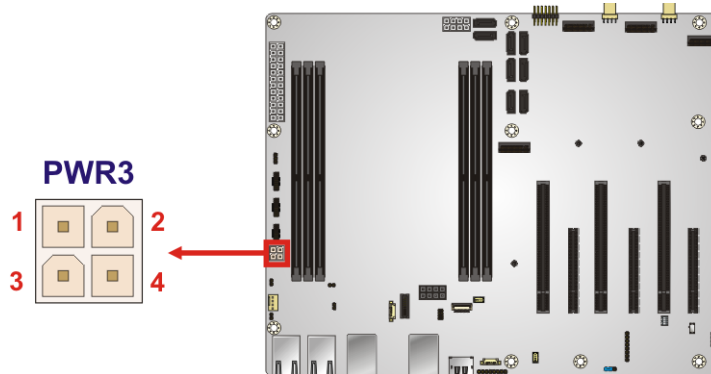

Figure 3-7: CPU Power Connector Pinout Location
3.2.6 CPU Power Connector (2)
- CN Location:** See **Figure 3-7**